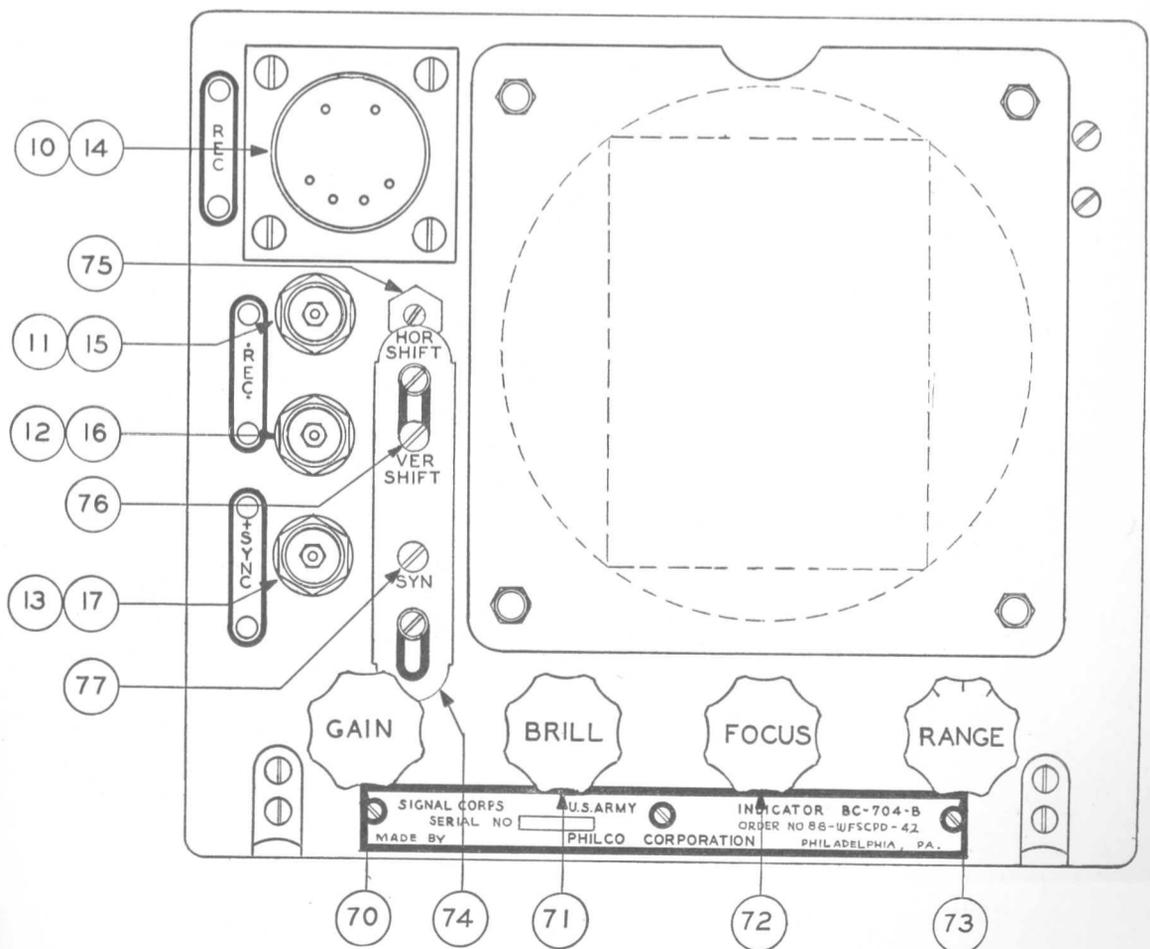

FIGURE 3—INDICATOR BC-704-B, FRONT VIEW
Under the sliding cover plate (74) (See Fig. 3) are three controls with slotted shafts (75), (76), and (77). The setting of these controls is usually checked by a specially trained radio mechanic immediately before the equipment is to be used. However, under abnormal conditions it may be necessary for the operator to adjust these controls.